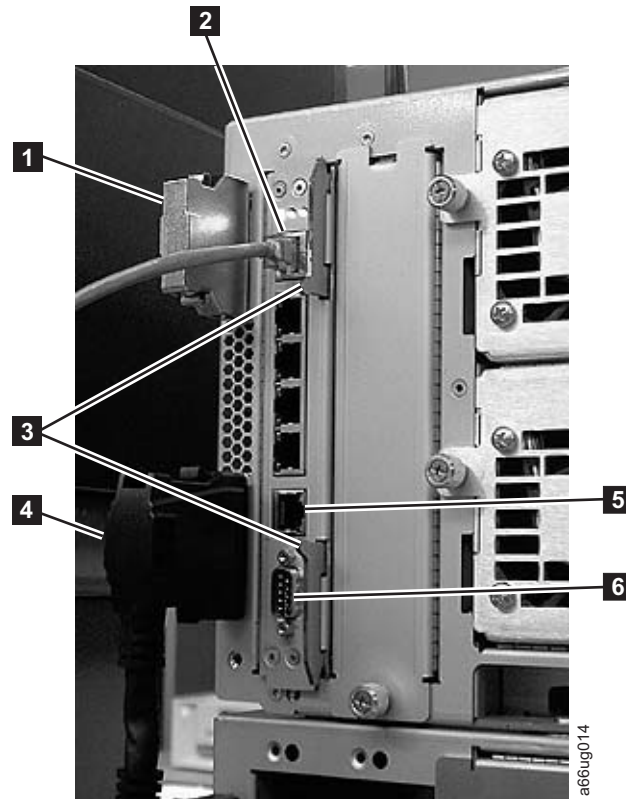

Figure 12-17. Library Control Blade (LCB)
2. Locate the empty LCB slot on the rear panel of the control module (CM). Then, carefully line up the new LCB board along the guide slots, and gently slide it into the control module until the connector seats.
3. Grasp the pair of latches near the top and bottom of the LCB ( **3** in Figure 12-17 on page 12-21) by pushing them in until they click into place.
4. Reconnect the Ethernet cable (**2** in Figure 12-17) by pinching the tab and pushing the connector into the LCB.
**Note:** Six slots reside below the Ethernet cable. The four topmost slots are reserved for future use. The two bottommost slots are designated as Ethernet (**5** in Figure 12-17) and serial (**6** in Figure 12-17) ports, and are reserved for use by IBM Service Personnel.